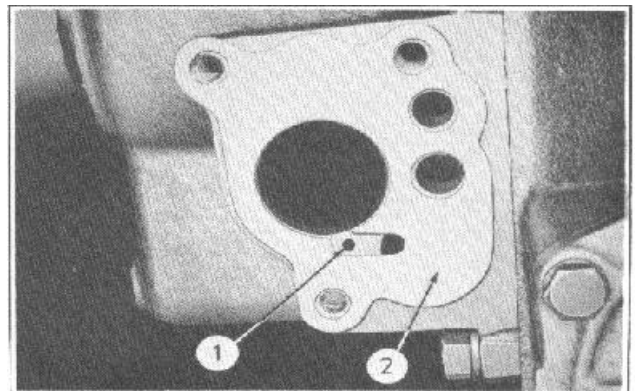

FIGURE 49
1. Install a new gasket to the face of the extension housing and retain gasket (2), Figure 49, in place with a thin film of petroleum jelly. Make sure that the governor valve drain hole (1), is open and that the gasket does not cover this drain hole.